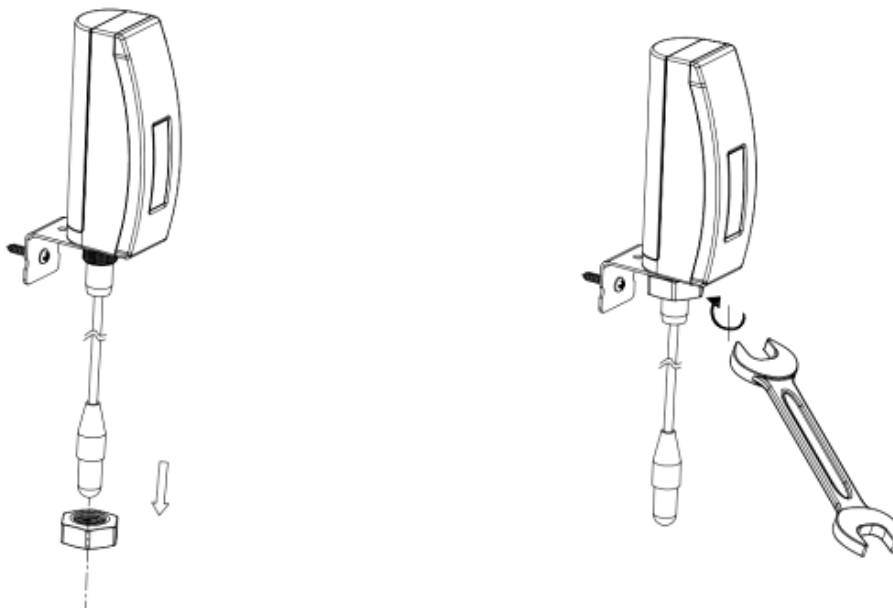

Figure 4
- Attach the sensor to the bracket with the M12 hex nut and tighten the screw as shown in figure 4: (Turn the nut by hand until it is tight, then use a spanner to turn 1/3 to 1/2 turn and no more. Do not over tighten).